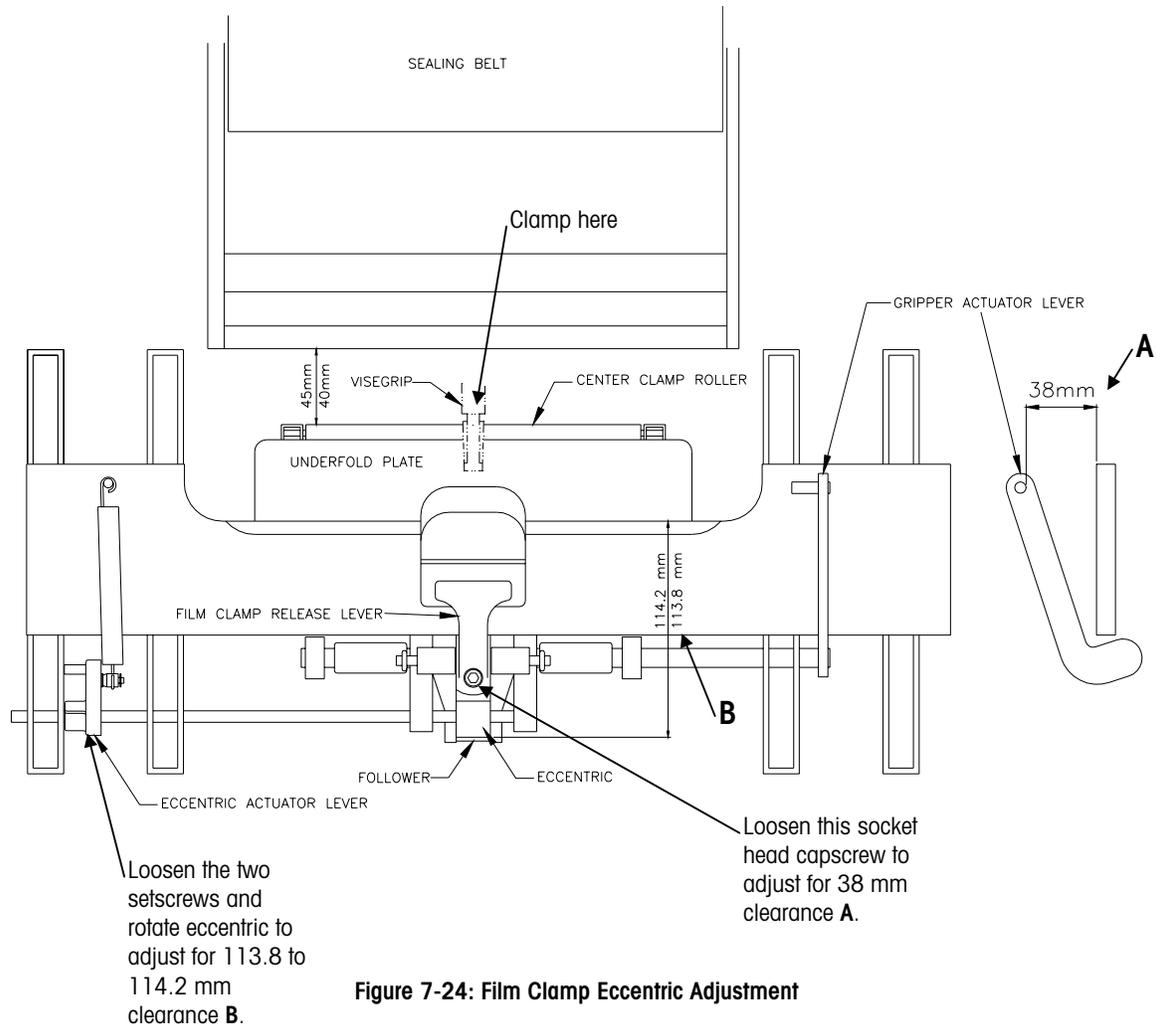

Figure 7-24: Film Clamp Eccentric Adjustment
2. Measure the position of the eccentric as shown in Figure 7-24. The film clamp eccentric should be located so that the distance from the back of the eccentric to the front of the gripper frame is $114\text{ mm} \pm 0.2\text{ mm}$.
1. Check the distance between the bottom of the pin on the gripper actuator lever and the Center Clamp frame. The distance should be 38 mm +/- 0.1 mm (See Figure 7-24).
4. At this point, there should be a distance of 40-45 mm between the Center Clamp roller and the first roller of the sealing belt (See Figure 7-24).